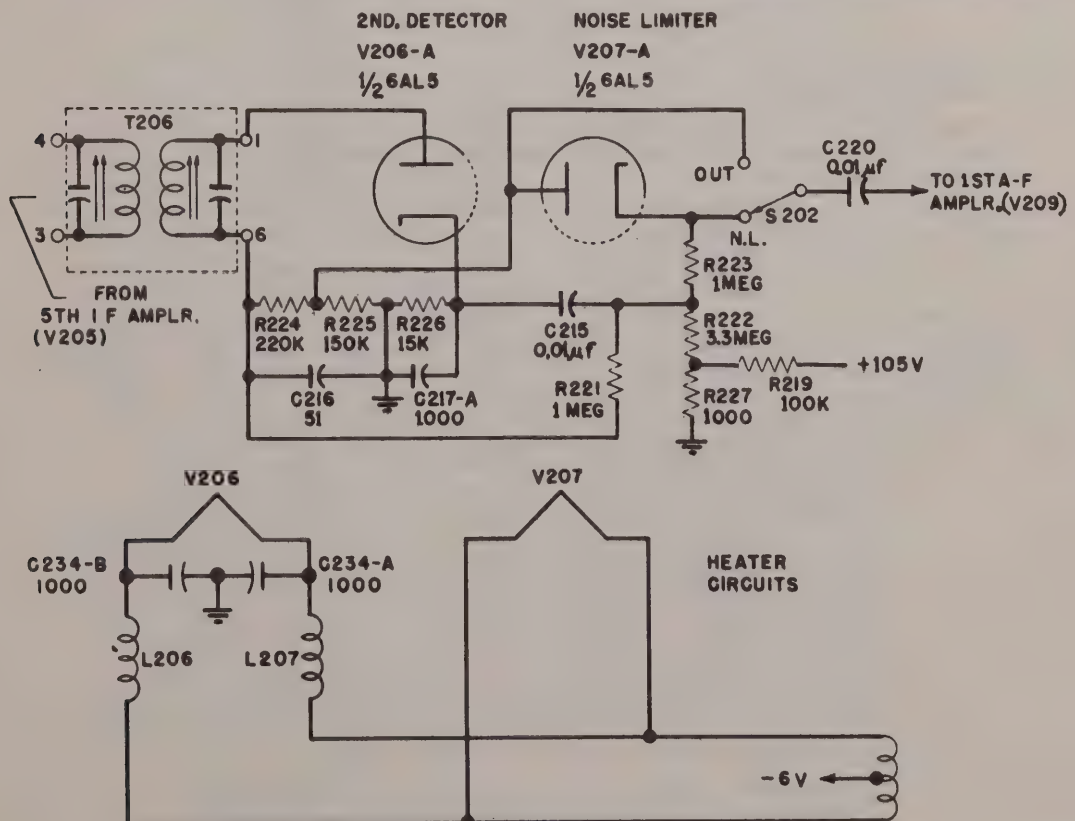

Figure 2-10. Simplified Schematic—Second Detector and Noise Limiter
c. SECOND DETECTOR. A simplified schematic diagram of the second detector is shown in figure 2-10. One half (V206-A) of a type 6AL5 dual diode is used in a conventional diode circuit. I-f transformer T206 couples the signal from the fifth i-f stage (V205) to the detector. Resistors R224, R225 and R226 constitute the diode load, which is by-passed for radio frequency by capacitors C216 and C217-A. The audio-frequency output, obtained at the junction of resistors R224 and R225, is coupled through capacitor C220 to the first a-f amplifier grid when noise-limiter switch S202 is in the OUT position.
tector and first audio stage (see figure 2-10). The limiter, V207-A, is one half of a 6AL5 dual triode which functions as follows: